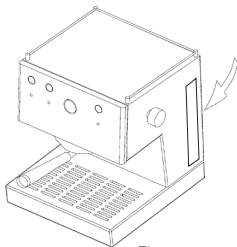

Figure 1
2. Fill the water tank with fresh water (see figure 1). Check that the water inlet tube is immersed in the tank.